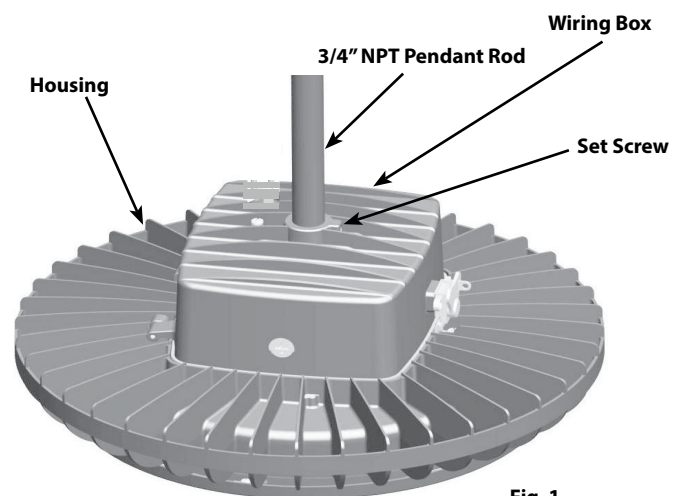

Fig. 1
3. Tighten **Set Screw** as shown in **Fig. 1**.